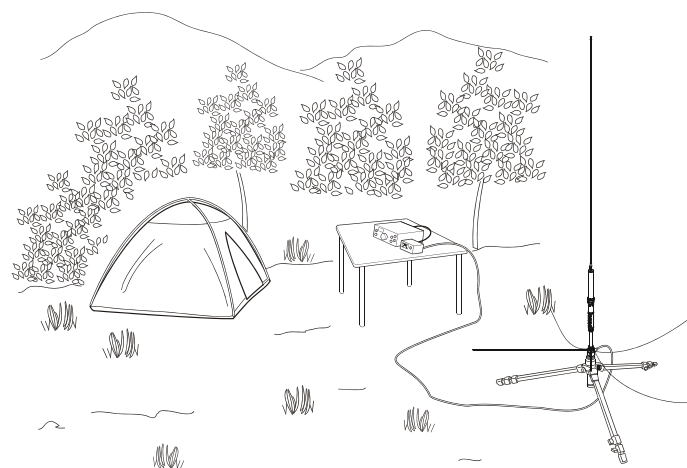

Figure 1
The **ATAS-25** utilizes a manual tuning system which resonates the radiating element for lowest SWR without the need for expensive, inconvenient mono-band resonating whip assemblies. The **ATAS-25** allows dual-frequency operation (on HF or 50 MHz and either 144 or 430 MHz), if two transceivers are combined via a suitable diplexer (not supplied). The **ATAS-25** is designed to mount directly onto a standard camera tripod (not supplied); see Figure 1.
- ❑ Set up the tripod as low and level as possible, for maximum stability of the tripod/antenna assembly. SWR tends to be best with the base of the **ATAS-25** near the ground, as well (Figure 1).